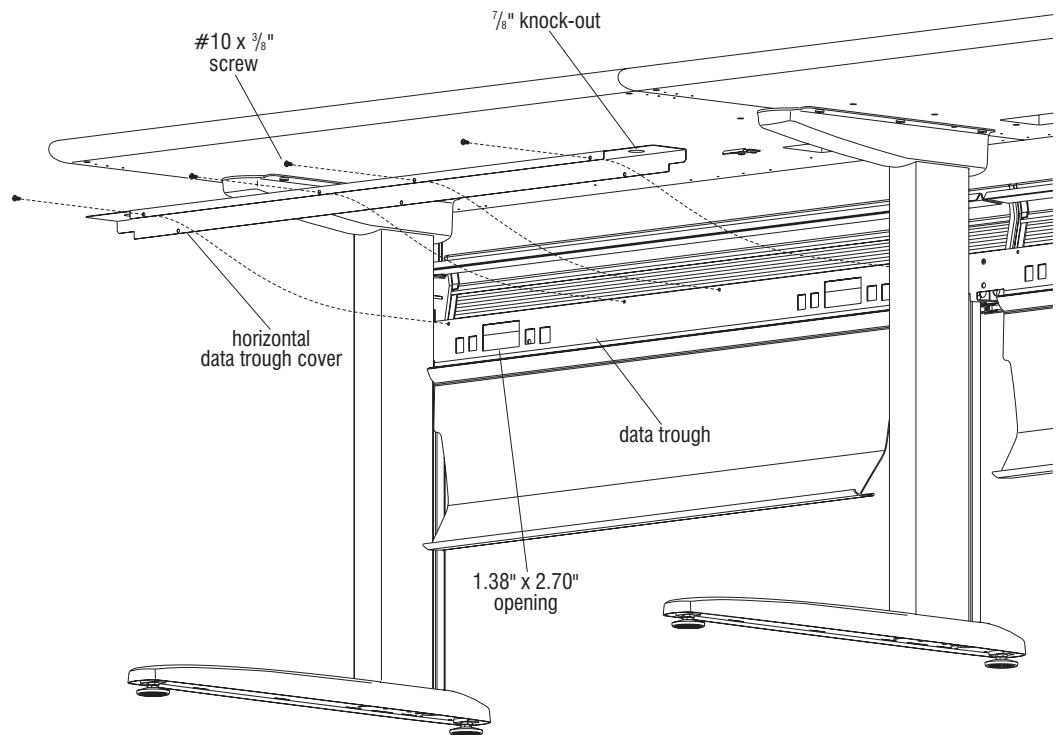

Figure 5
Note: Data troughs come with 1.38" x 2.70" opening(s) on the front for use with communication/data ports. All legs come with the ability to run data wires through the legs and into the data trough. Optional horizontal data trough covers come with a 1 1/8" diameter hole on each end for passing wires through from a power pole (Figure 5).
1. Before installing a horizontal data trough cover, the data/communications wires should be appropriately routed. Run wires to the horizontal data trough, either down through a vertical power pole or up through the leg vertical wireway (Figure 5).
2. With data wires in the horizontal data trough, make appropriate connections through the data plate (not shown, snaps into the 1.38" x 2.70" opening). Data wires can also be connected to standard data connectors that will snap into the smaller rectangular holes in the data face plate (Figure 5). A data adapter plate tree is included for accommodating the various types of data jacks. Break off the proper adapter and insert into the openings in the data trough.
3. To install the data trough cover, position the long side of the cover to the backside of the table as illustrated (instructor side). Carefully maneuver the horizontal data trough cover behind the legs and set the bottom of the cover against the top of the data trough, making sure the mounting holes align. Secure the cover to the trough with #10 x 3/8" screws (Figure 5).